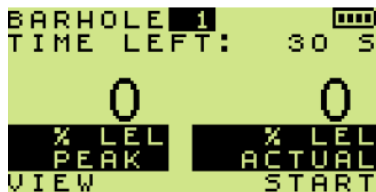

Figure 26: Barhole 1 & Timer
4. BARHOLE 1 is displayed as shown in Figure 26: Barhole 1 & Timer.